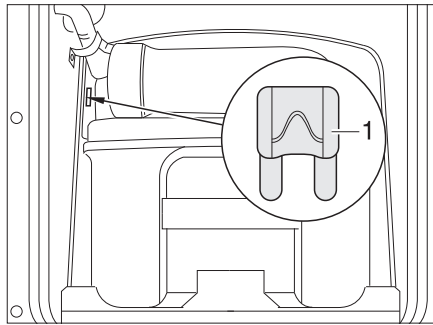
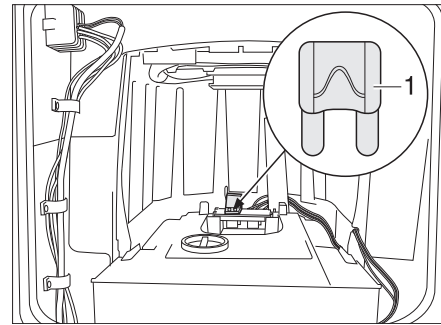

Fig. 287 Fuse for the Thetford toilet
Fig. 288 Fuse for the Thetford toilet
- Replace fuse (Fig. 287,1 or Fig. 288,1).